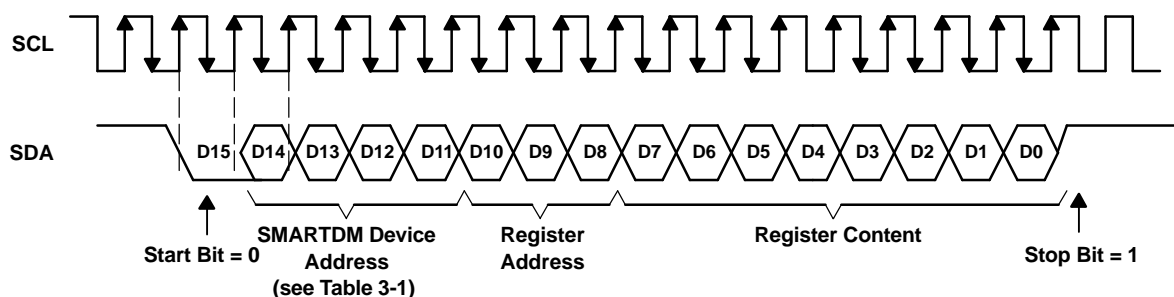

Figure 30. S²C Programming
The S²C is a write-only interface selected by programming bits D1-D0 of control register 2 to 01. The SDA input is normally in a high state, pulled low (START bit) to start the communication, and pulled high (STOP bit) after the transmission of the LSB. Figure 30 shows the timing diagram of S²C. The S²C also supports a broadcast mode in which the same register of all devices in cascade is programmed in a single write. To use S²C's broadcast mode, execute the following steps:
2. Write data to program control register as specified in Figure 30 with bits D14-D11 = XXXX (don't care).